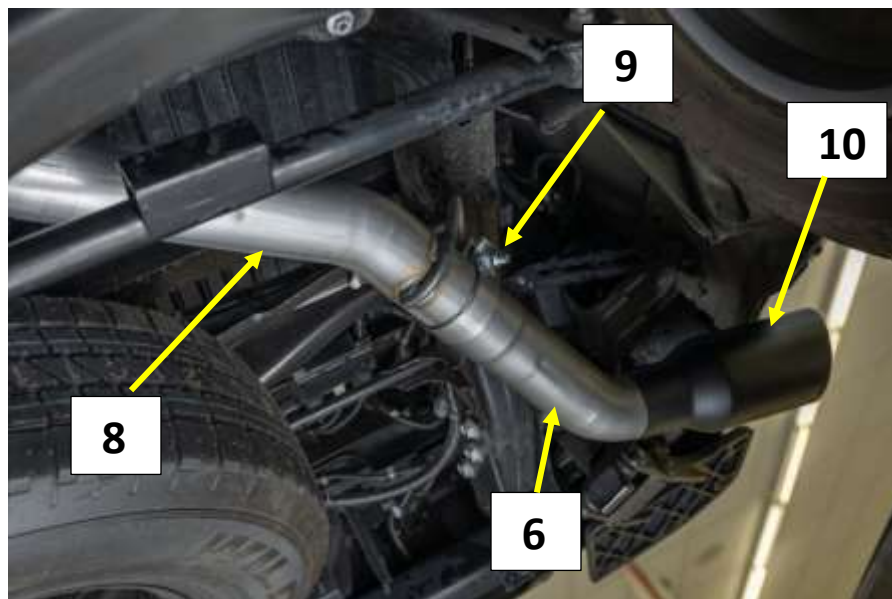

Figure 9
14. Install a 3" band clamp (9) on to the expanded end of the tailpipe extension (6). **Fig.9**
15. Install the tailpipe extension (6) on to the tailpipe outlet (8) and tighten the clamp to allow for adjustment.
16. Install the 4.5" Black Tip (10) on to the tailpipe extension. Tighten the clamp to allow for adjustment.